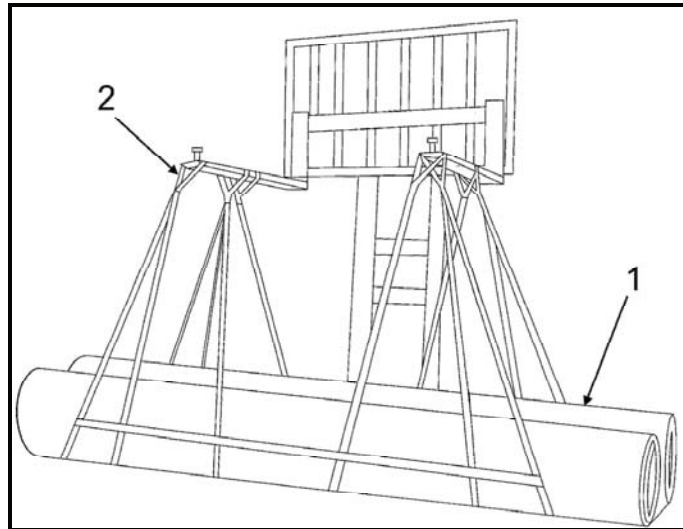

Figure 11. Lifting the Berm liner.
2. Locate the lifting straps (Figure 11, Item 2) around berm liner (Figure 11, Item 1). Carefully insert fork lift forks (10,000-lb. capacity) through the loops of lifting straps.
3. Transport berm liner (Figure 11, Item 1) to the center of the desired installation site.